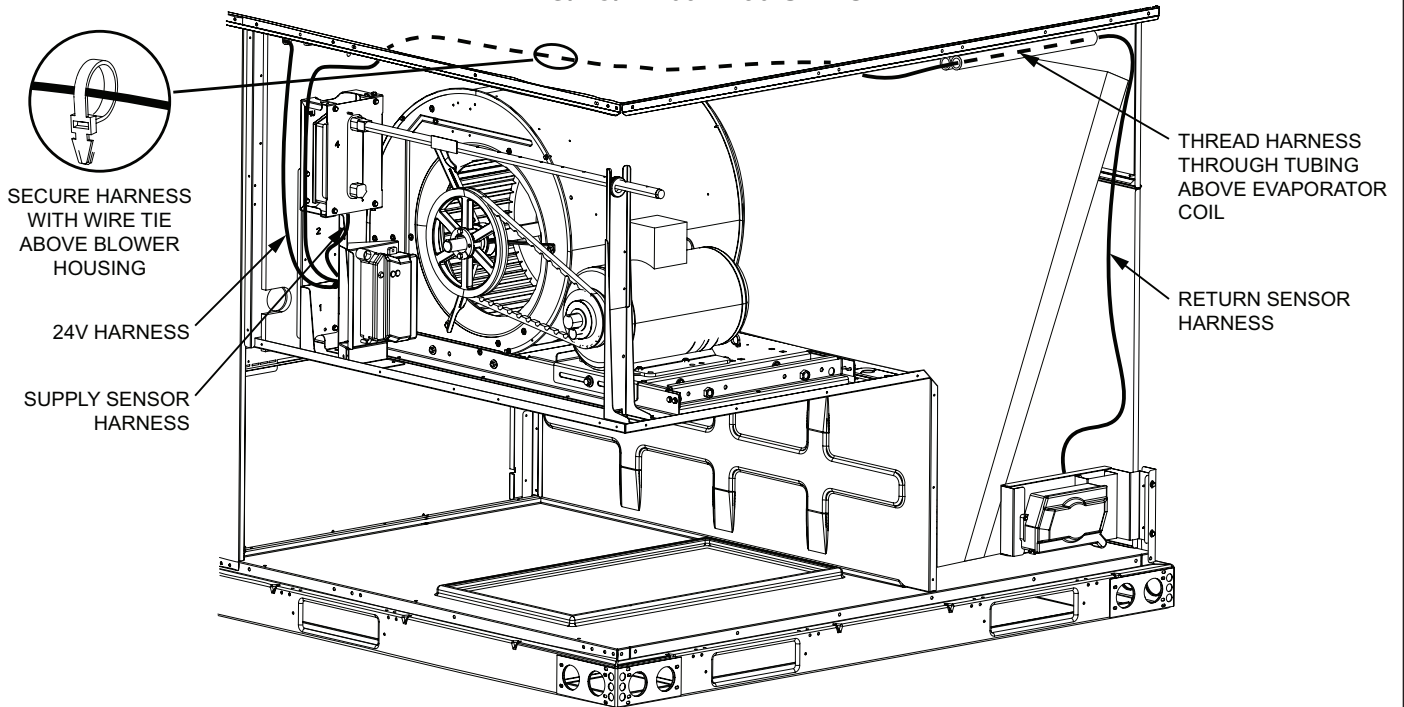

FIGURE 20
- 6 - For 092-150 units, route 24V harness up to the electrical knockout at the top of the divider panel. Route supply detector harness to the supply detector. Route return detector harness up above the blower wheel through the tubing above the evaporator coil and down to the return sensor. Use wire tie to fasten harness above the blower wheel. See FIGURE 20.